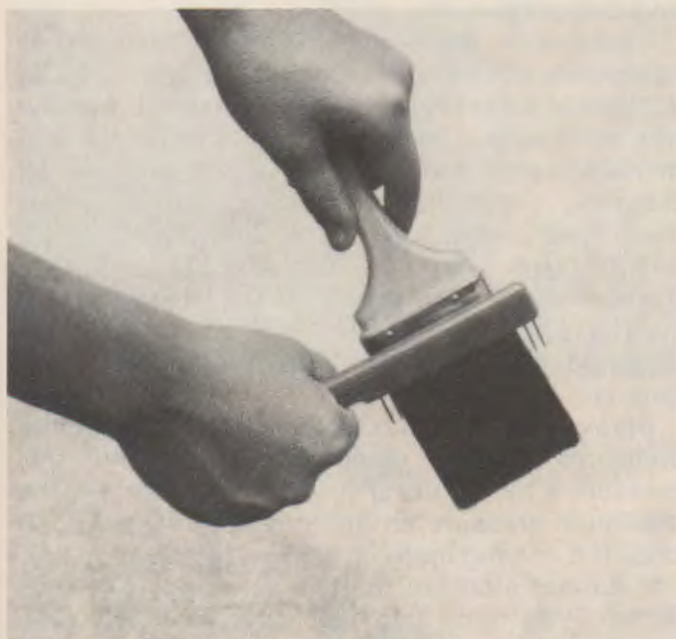

Fig. 46-5. Be sure brushes are completely clean. Comb through them.
2. Remove set finish from the ferrule and bristles, Fig. 46-5. Use a putty knife, coarse comb, and/or wire brush.